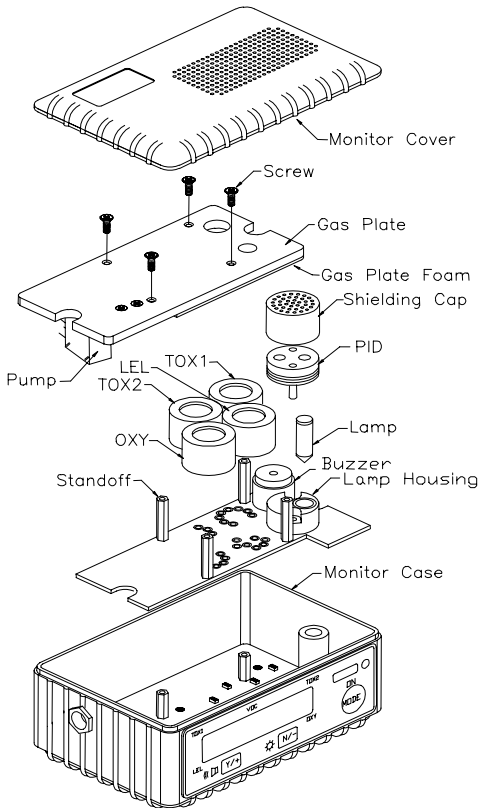

Figure 7-2 Sensor Assembly of MultiRAE PLUS
3. Refer to Figure 7-2, carefully unscrew four No. 2 screws that hold down the gas piping plate to the analog PCB and sensors. Remove the gas piping plate.
4. Refer to Figure 7-2, identify the location of a specific toxic sensor and remove the sensor by gently pulling the sensor upward.
The sensor module is made of several components and is attached to the lamp housing unit as shown in Figure 7-2.
9. Refer to Figure 7-2, install the gas piping plate and tighten the four screws to hold down the sensors. Reconnect the battery pack. Install the monitor cover.
2. Refer to Figure 7-2, open the monitor cover, **disconnect the battery pack**, carefully unscrew four No. 2 screws that hold down the gas piping plate to the analog PCB and sensors. Remove the gas piping plate.
5. Refer to Figure. 7-2, replace the gas piping plate and tighten the four screws to hold down the sensors. Re-connect the battery pack. Replace the monitor cover.